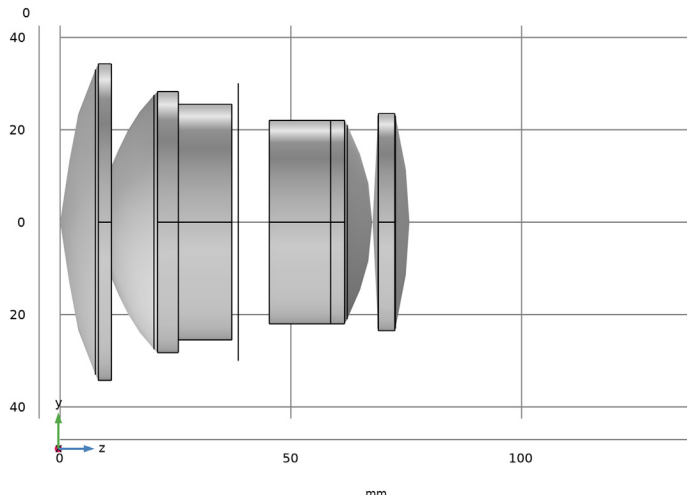
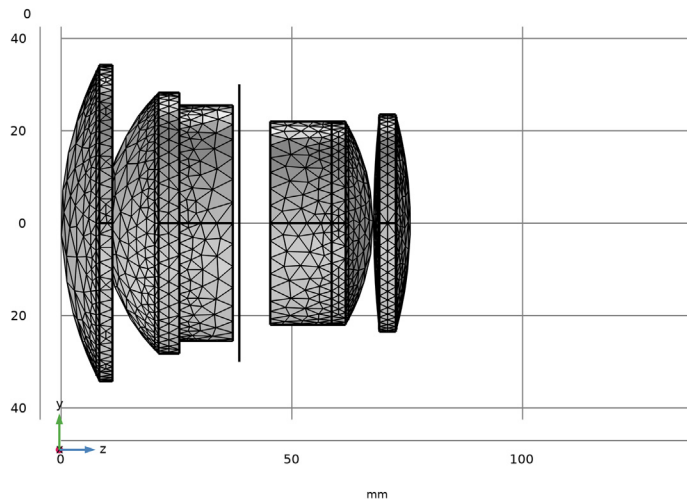

Figure 2: The double Gauss lens geometry sequence.
Figure 3: The default Physics-controlled mesh for the double Gauss lens.
is simplified by making use of the predefined work planes within the part instances. It is important to appreciate that the ray tracing method used by the Geometrical Optics interface is inherently nonsequential, so the same result could be obtained by placing part instances within the geometry in any order. The double Gauss lens geometry sequence is shown in Figure 2 and the default, Physics-controlled mesh, is seen in Figure 3.
- 7 In the **Graphics** window toolbar, click  next to  **Go to Default View**, then choose **Go to ZY View**. Orient the view to place the *z*-axis (optical axis) horizontal and the *y*-axis vertical. Compare the resulting geometry to Figure 2.